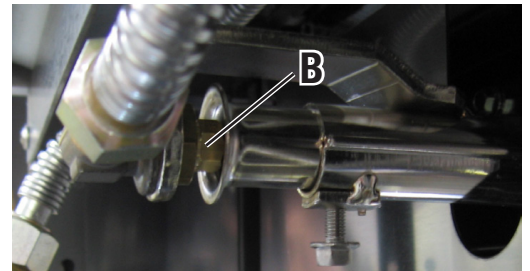
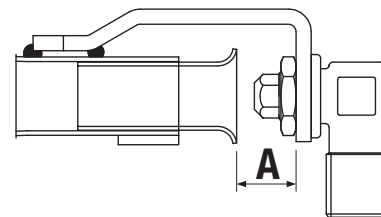

Fig.6.
Fig.7.
3. Unscrew the nozzle 'B' (Fig.6) and replace it with the one for the gas type selected based on the indications of the technical data plate (the nozzles are marked in hundredths of a millimetre)
The fixed primary air is properly regulated if flame stability is ensured (if there are no breaks in the flame with the burner cold and no flashback when the burner is hot). Primary Air is fixed from the Factory. Unscrew the nozzle "B" (Fig.6) and install the one for the type of gas, checking the "A" (Fig.7) distance for air (see page 8 / 2.1.5).